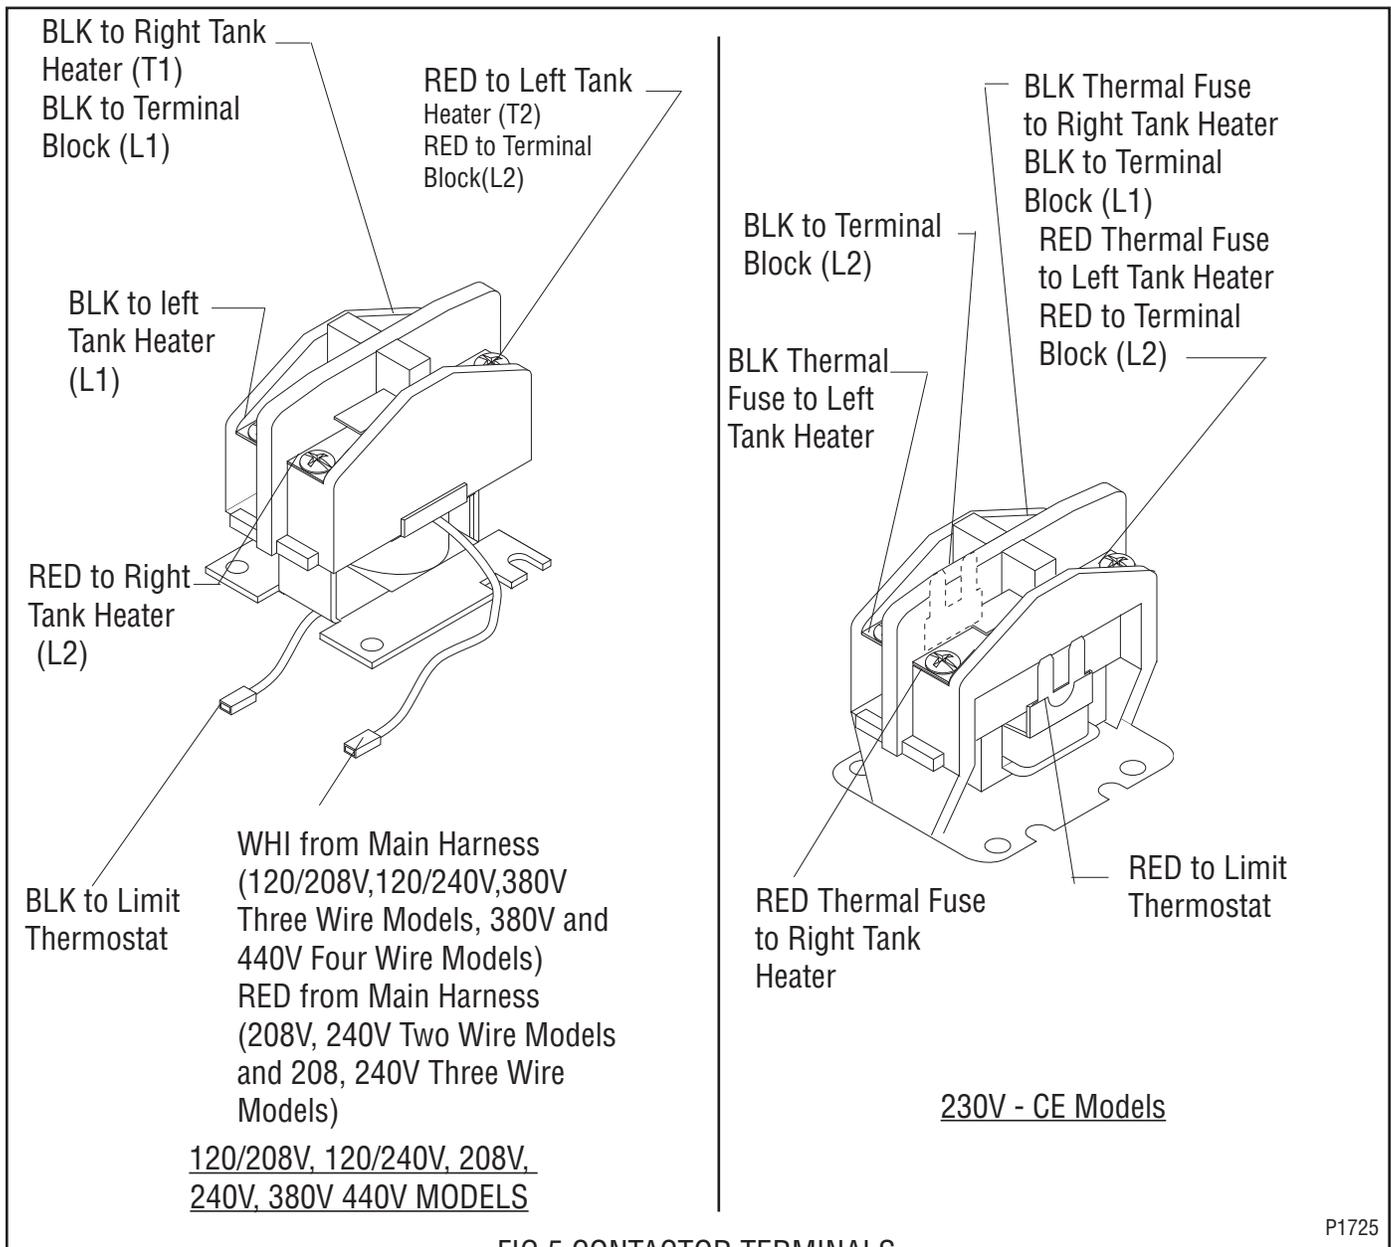

FIG.5 CONTACTOR TERMINALS
- 4. Refer to Fig. 5 and reconnect the wires.